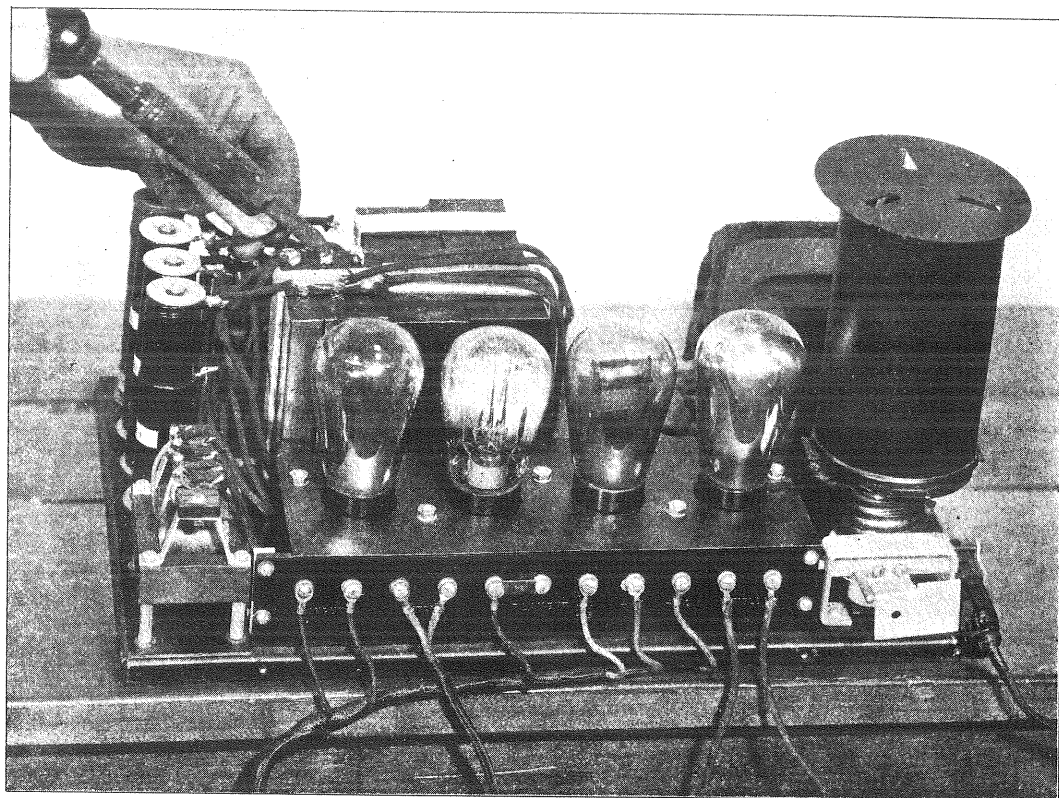

Figure 5—Testing 2 Mfd. condensers for leakage
R.P.A. unit and reconnect it. Disconnect one of the 2 Mfd. condensers (Figure 5), operate loudspeaker and note the result. If the distortion is not eliminated, turn off input current, replace the connection and try the next one, repeating this process until all the 2 Mfd. condensers have been tested. If the distortion ceases after a certain condenser has been disconnected, that condenser must be replaced.